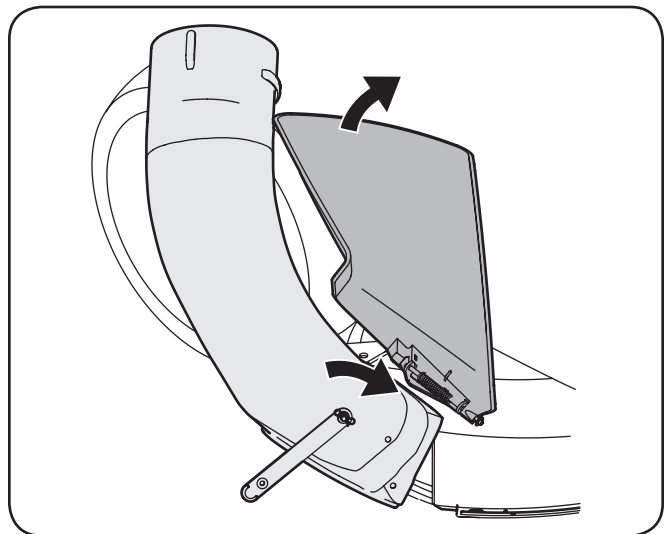

Figure 4-22
- With the tractor's discharge chute raised up and held open, install the chute elbow over the chute opening by placing the top, rear edge of the chute elbow over the rear of the deck opening, then pivoting the chute elbow down and over the chute opening. See Fig. 4-22.